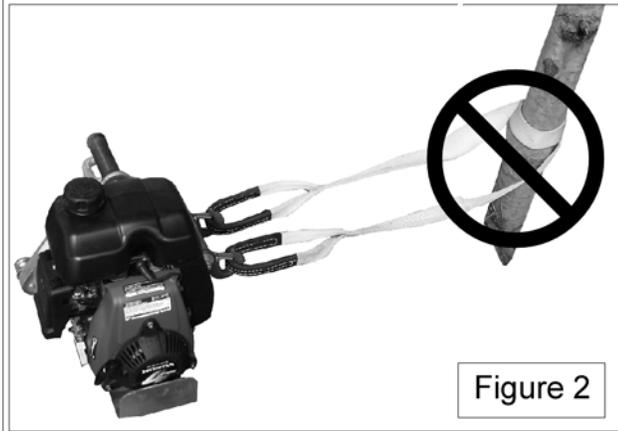

Figure 2
**⚠ CAUTION** **DON'T DO THIS!** WHEN YOU ANCHOR THE WINCH, MAKE SURE THAT YOU **DO NOT** DO A COMPLETE WRAP AROUND THE ANCHOR POINT (FIGURE 2). THIS SET-UP WILL PREVENT PROPER ALIGNMENT OF THE WINCH WITH THE LOAD AND WILL PUT UNEVEN TENSION ON THE WINCH ANCHOR HOOKS.
- 3) Slide the plate on the ball hitch and pull the winch forward (figure 2)
- 3) Wrap the rope around the drum (3 or 4 turns) (figure 2);